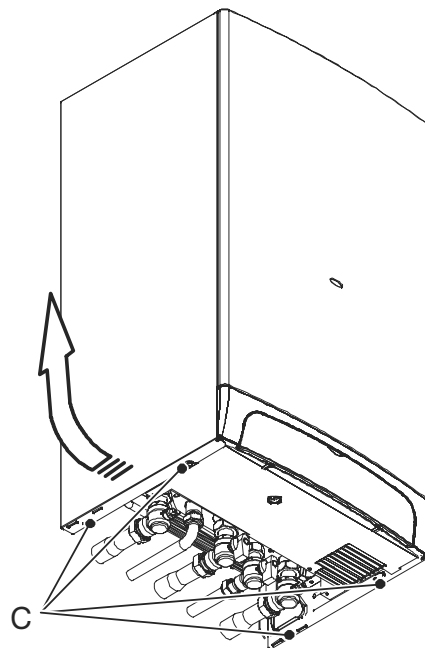

Fig. 8.2
- 3 Loosen the screws C. Bring the bottom of the panels away from the boiler and lift them, freeing them from the top hooks (Fig. 8.2).